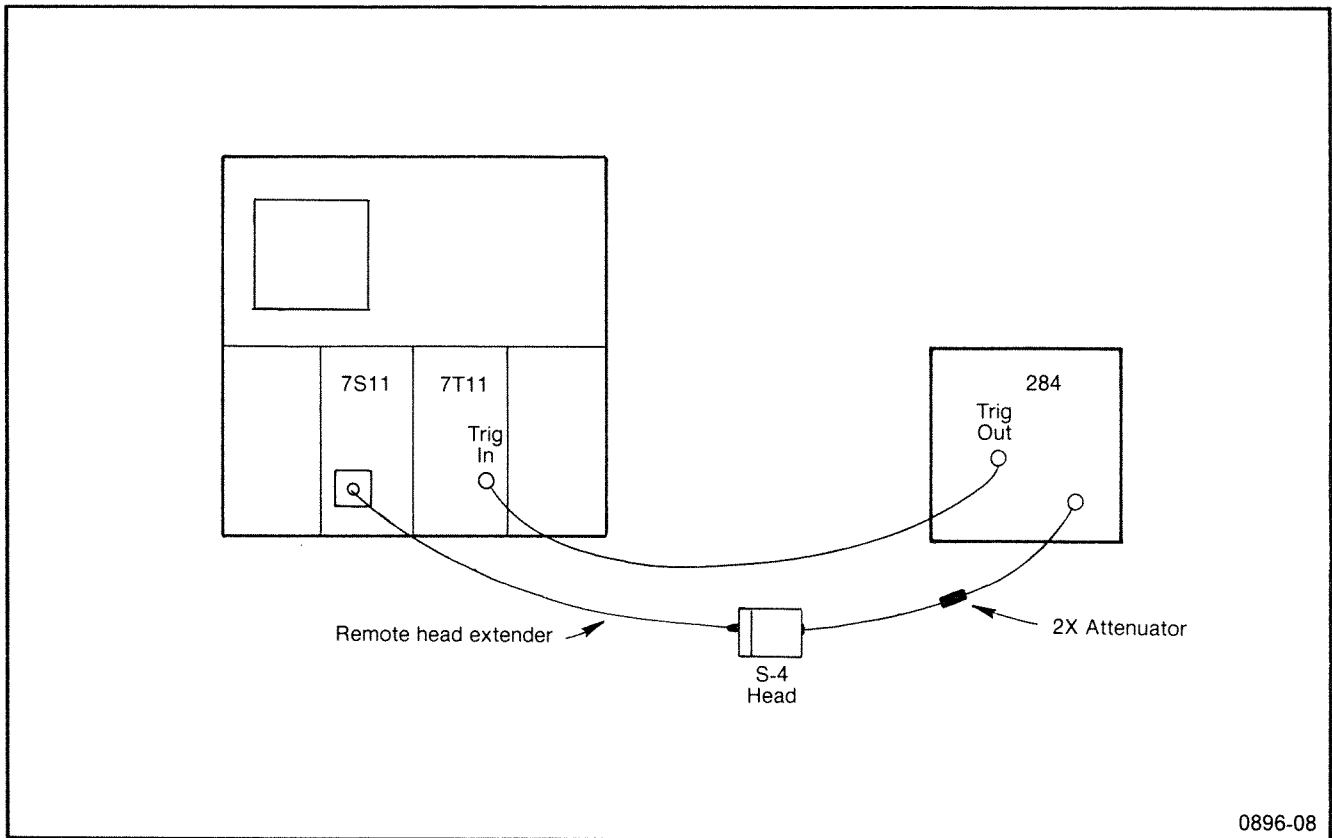

Fig. 4-1. Initial equipment setup.
f. Set the controls as listed following Fig. 4-1.
a. Connect the Type 284 Square Wave Output signal to the Type S-4 as shown in Fig. 4-1. Use a 2 \times GR attenuator at the Type 284 Output connector and a GR to 3 mm adapter to the Type S-4 input connector.